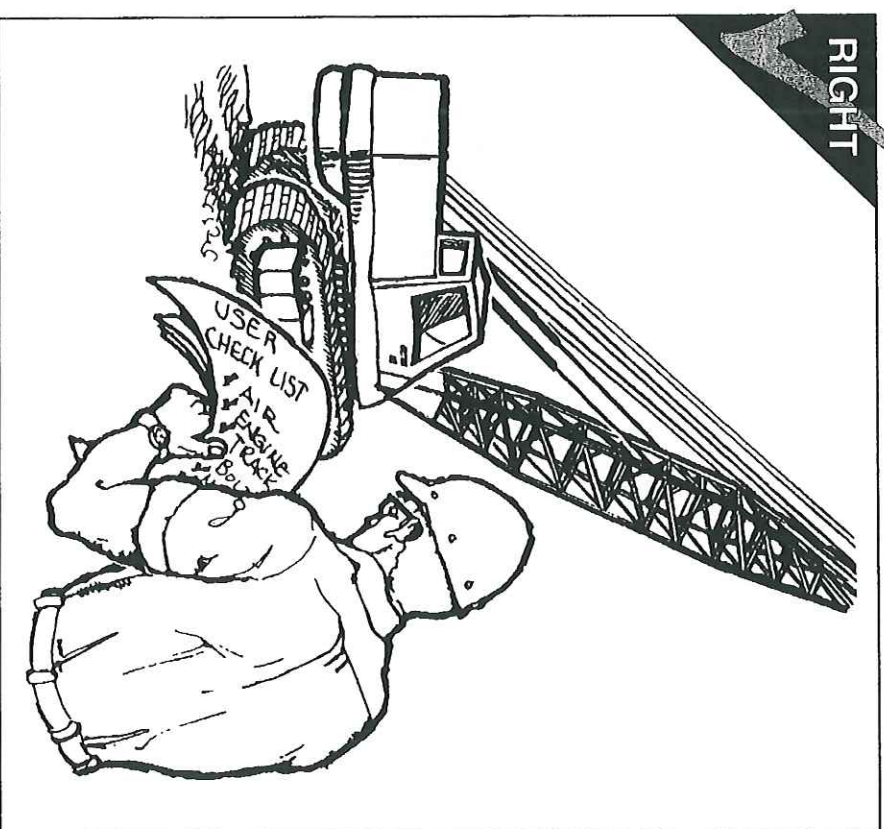

FIG. 46
- The hoisting system shall be inspected if the load rope is slack to ensure all ropes are properly seated on drums and in sheaves; (FIG. 46)